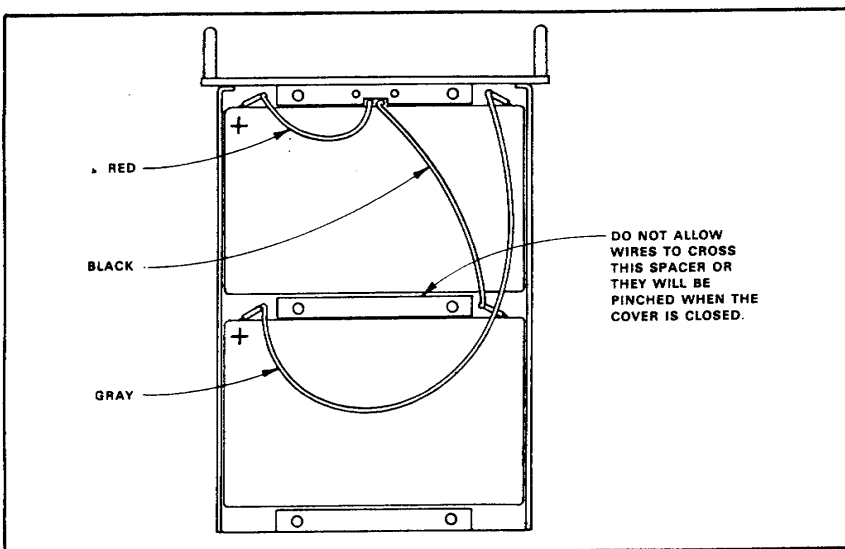

Figure 11 - Connecting the new cells.
4. Connect the new cells as shown in Figure 11.